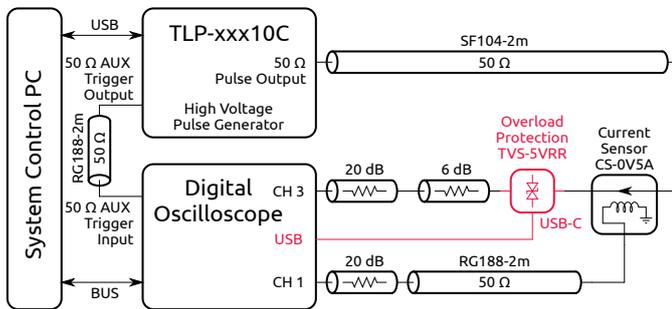

Figure 15: Clamping voltage test setup
1. Connect the TVS-5VRR according test setup shown in Fig. 15.